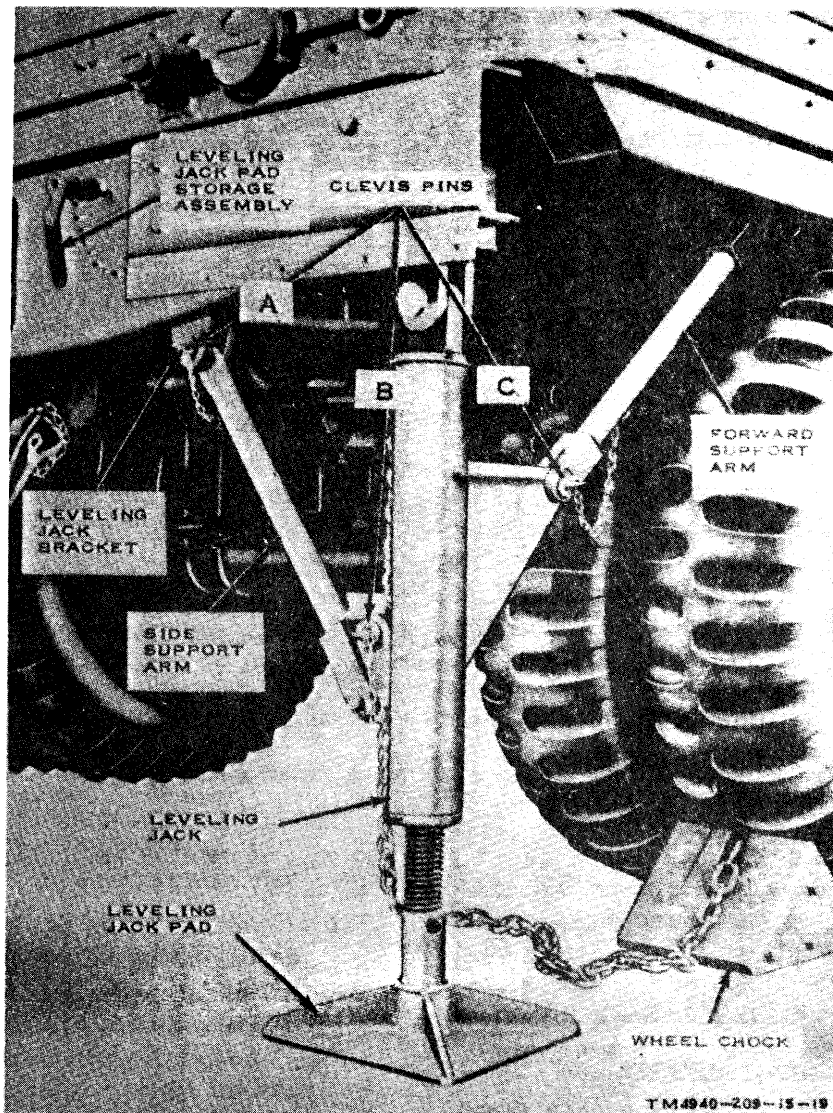

Figure 2-2. Van leveling jack in extended position.
- (1) Remove the clevis pins (as indicated by A and B, fig. 2-2) which secure the side support arm and the leveling jack in the retracted position. Allow the leveling jack assembly to swing downward.
- (2) Position the free end of the side support arm into the leveling jack bracket and insert clevis pins A and B as shown.
- (3) Remove the third clevis pin (as indicated by C, fig. 2-2) which secures the forward support arm to the underside of the van. Position the forward support arm on the leveling jack and insert clevis pin C as shown.
- (4) Remove the leveling jack pads from their storage location and position a pad at each leveling jack. Be sure that the pads rest on firm, dry ground. If necessary, use planks to insure that the weight of the van does not cause the pads to settle deeply into the earth.
- (5) Remove the lever bars from their transit location and insert a lever bar into the hole at the base of each leveling jack.